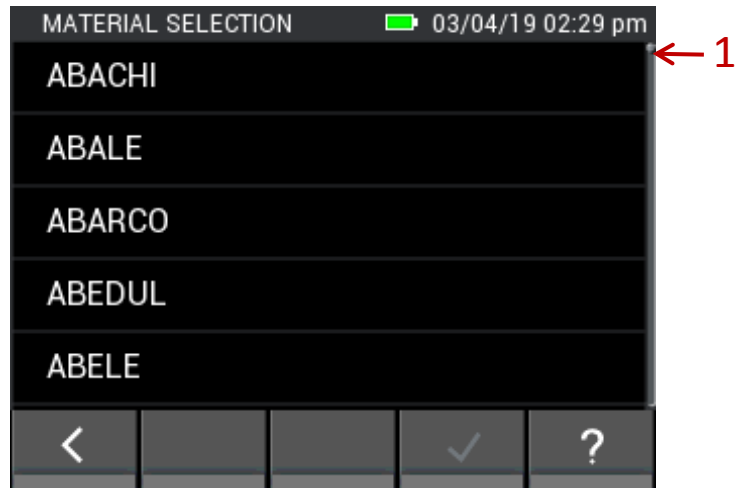

Figure 5-6: Complete list of wood types
The complete list of wood types is in alphabetical order. The desired type can be selected and confirmed here. Slow scrolling is possible using vertical swipe gestures over the middle. The scroll bar on the right side is used for fast scrolling (see Figure 5-6: Complete list of wood types (1))